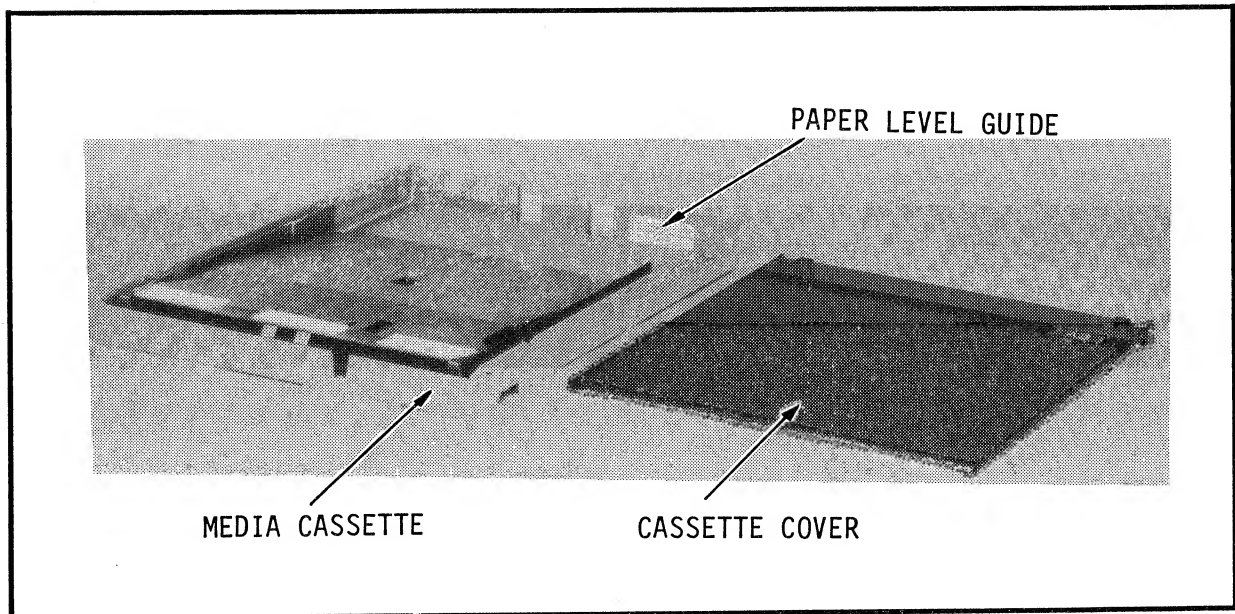

Figure 3-8. Media Cassette
1. Lift the media cassette from its mounting slot and set it on a flat, clean surface. Refer to Figure 3-8.
2. Open and remove the cassette cover (Figure 3-8).
Note: Do not put more than 150 sheets (approximately 0.44 in/11.2 mm thick) of paper in the media cassette at one time. A line indicating the maximum allowable paper level is located inside the cassette (Figure 3-8).